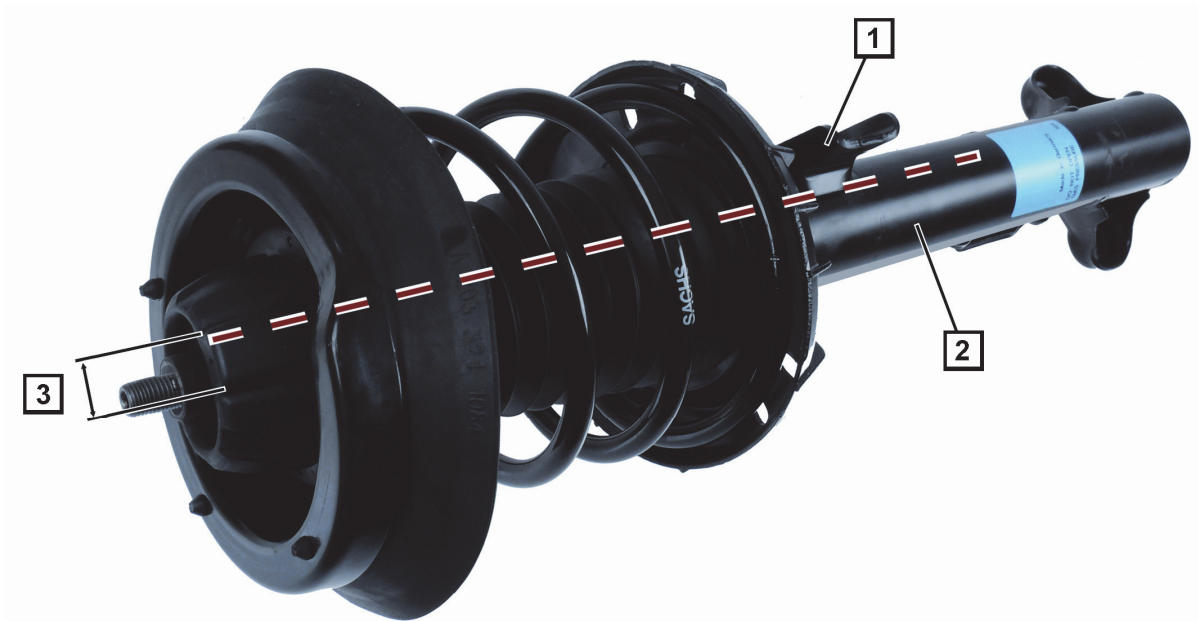

Fig. 1: Suspension strut
- Reassemble the suspension strut (2) with the fittings.
- Fit the spring disc (6) with a positive connection on the suspension spring. Make sure that the brace (3) with the bracket for the anti-roll bar link (1) is flush (Fig. 1: Dotted red line).